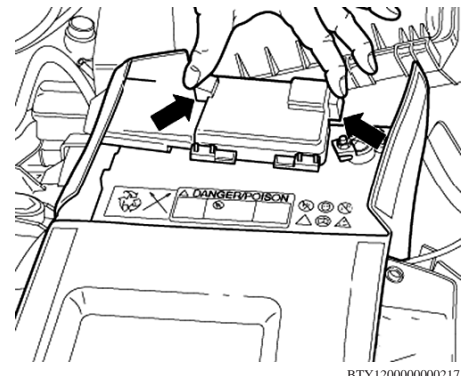

Fig. 2 Fuse cover removal
7. Press fuse cover locking lugs together (arrows) and remove, **Fig. 2**.